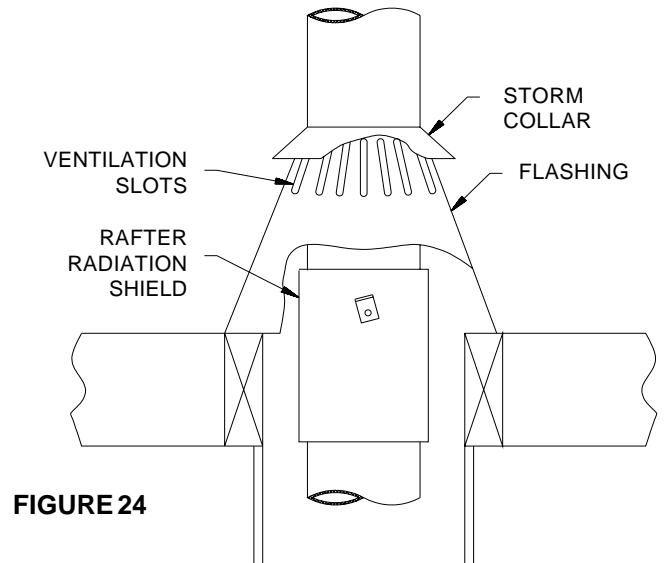

FIGURE 24
2. A Rafter Radiation Shield is only required when the chimney is enclosed in the attic space. The shield is installed from above the joist and is supported by the two L-shaped brackets on the sides. Ensure that the chimney is plumb, then nail the rafter radiation shield into place through the brackets before the roof flashing is installed. See figure 24.